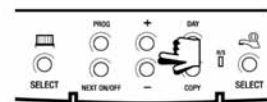
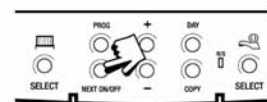

Fig. 4
Fig. 8
- Use **+ or -** buttons (Fig. 4) to adjust the **TIME** (press and hold to change in 10 min increments).
Press **PROG** (Fig. 2) – the colon in the LCD display will start to flash (Fig. 8).
4. Press the **DAY** button once (Fig. 4) and **SASU** will appear at the bottom of the display (Fig. 8). Programme new ON/OFF times by pressing the **NEXT ON/OFF** button (Fig. 7) once to move to the next setting and using the **+** and **-** buttons (Fig. 3) to set the time you want.
5. Press **DAY** button (Fig. 4) to return display to **MOTUWETHFR**, ready to programme the Hot Water.
3. Press **DAY** button once only (Fig. 4), the next day (e.g. **TU**) will appear at the bottom of the display. Continue programming for the rest of the week by pressing the **NEXT ON/OFF** button (Fig. 7) to move to the next setting, using the **+** and **-** buttons to amend the time, and by pressing **DAY** to advance to the next day (Figs. 7, 3 & 4).